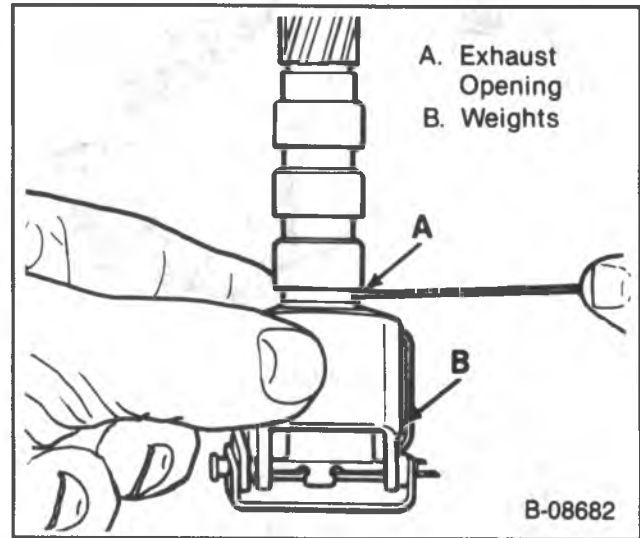

Figure 79 — Measuring the Governor Valve Exhaust Opening
- Valve exhaust opening. With the weights held all the way inward, the opening should be 5.1 mm (0.020 in.) (Figure 79).